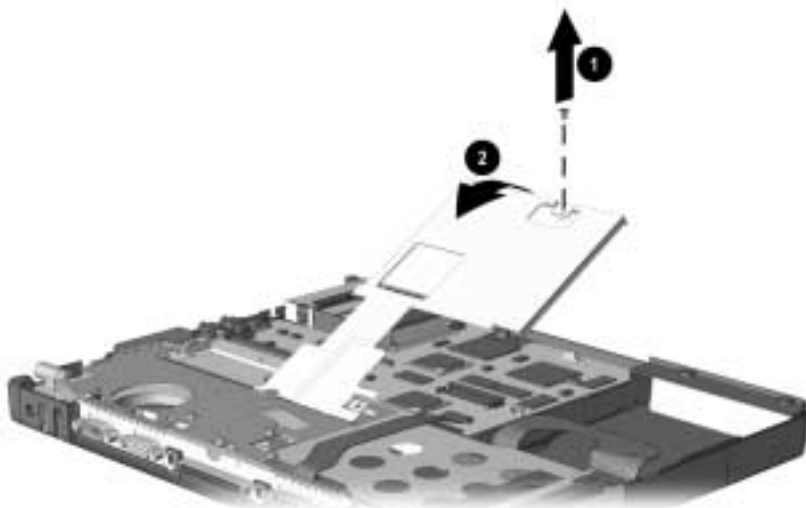

Figure 5-22. *Removing the Front Shield*
3. Remove the screw ❶ that secures the front shield to the base enclosure (Figure 5-22).
4. Lift the front edge of the front shield up and swing it toward the back of the computer ❷.